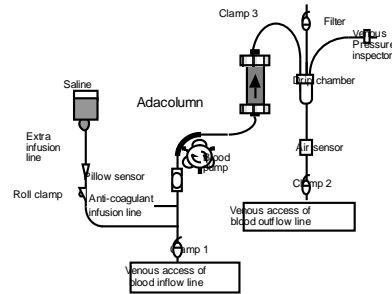

Fig.3
- 2) Connect the blood inflow line and the blood outflow line to the venous access established above (Fig. 3). Alternatively, it is possible to connect the blood outflow line to the venous access only when the blood reaches the end of the blood outflow line.